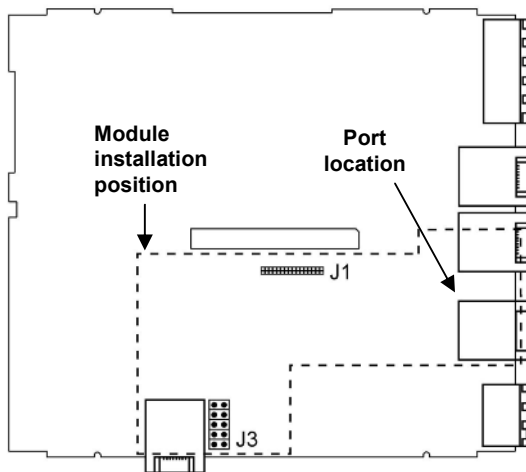

Figure 2. Controller, Main PCB Board
5. Locate the J1 and J3 connectors shown in Figure 2.